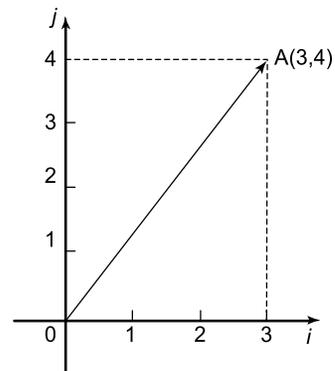

Figure 4.3
- (vi) $xi + jy$, where i and j are axes at right-angles to each other; for example, $3i + 4j$ means 3 units in the i direction and 4 units in the j direction, as shown in Figure 4.3.
- (vii) a column matrix $\begin{pmatrix} a \\ b \end{pmatrix}$; for example, the vector \overrightarrow{OA} shown in Figure 4.3 could be represented by $\begin{pmatrix} 3 \\ 4 \end{pmatrix}$
Thus, in Figure 4.3,